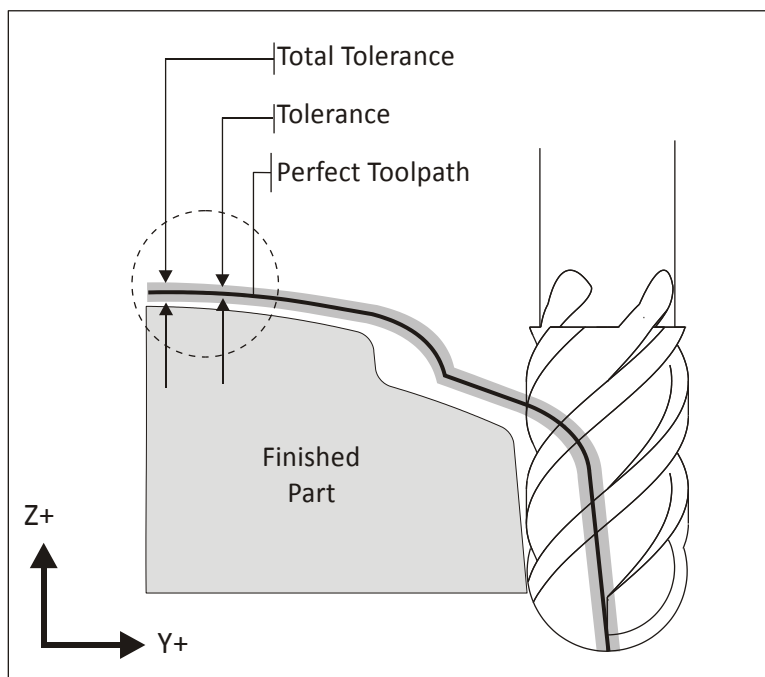

Figure 3: Cut Tolerance
**Cut tolerance**, illustrated in Figure 3, controls how closely the tool path follows a theoretically perfect path along the surface. Cut tolerance is a plus or minus value, so the total cut tolerance band is twice the tolerance value.